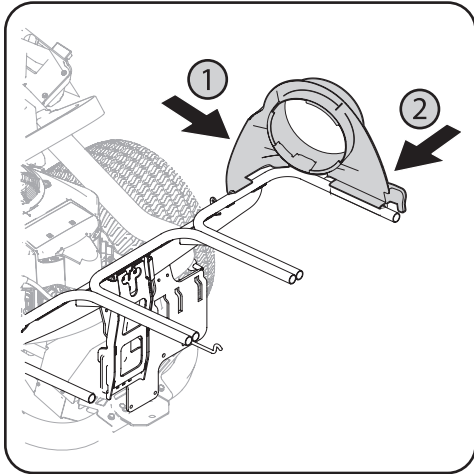

Figure 4-14
1. Snap the plastic upper chute support in place by first clipping the side portion onto the bagger support rail (1) as shown in Figure 4-14.
2. Snap the front side of the chute support to the rail (2), as shown in Figure 4-14.